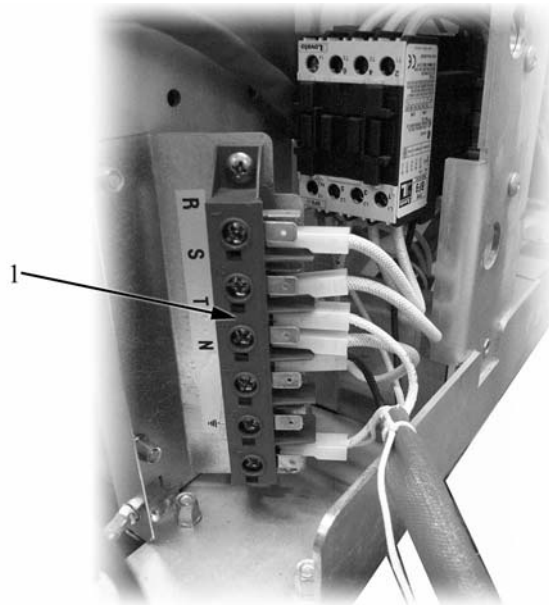

Fig. 5
- after removing the front panel, you can directly access the power supply terminal block of the appliance (pos. 1 in Fig. 5).